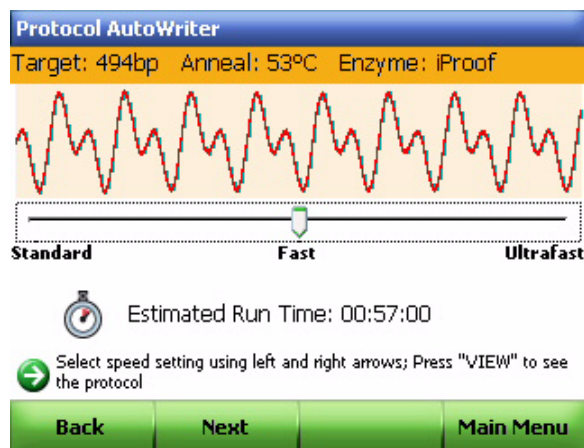

Figure 74. The amplicon length, enzyme, and T_a are listed across the top of the reaction speed screen.
4. Select **NEXT** to go to the reaction speed screen (Figure 74).